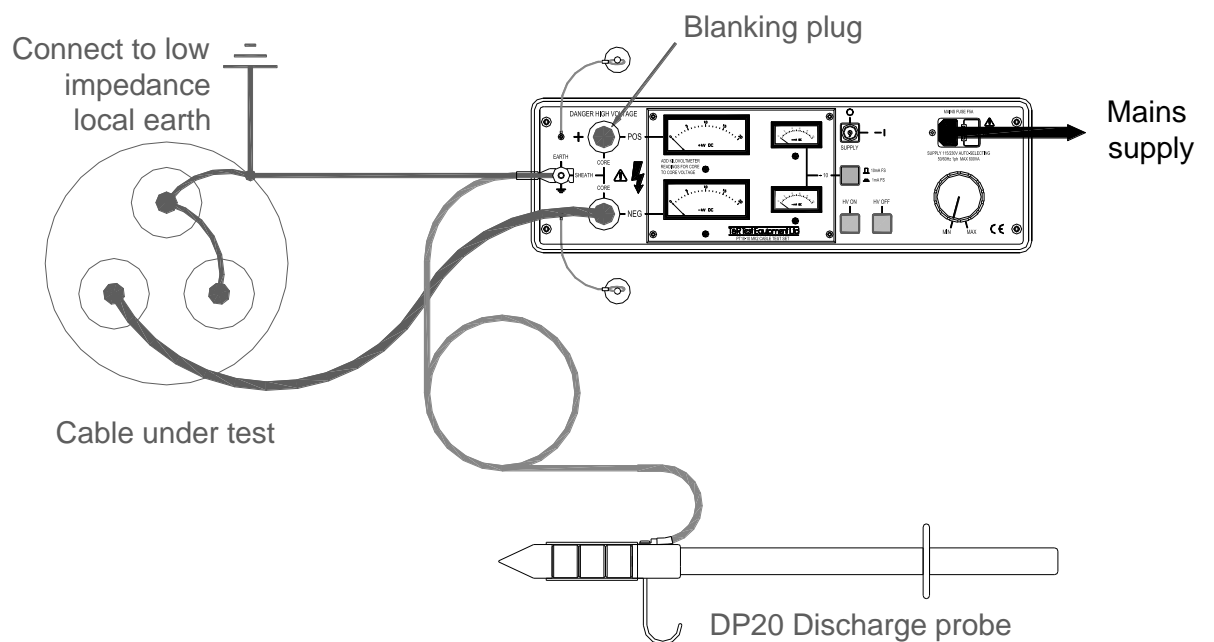

Figure 3 Connections for negative unipolar test
- For a unipolar test connect the black/negative HV lead to the negative output socket on the PT18-10 and the test object. The positive output must be blanked off using the plastic blanking plug provided (not the metal dust cap). It is also possible to carry out a positive unipolar test, as shown in figure 3, although it is more common to use a negative test as this is more onerous.